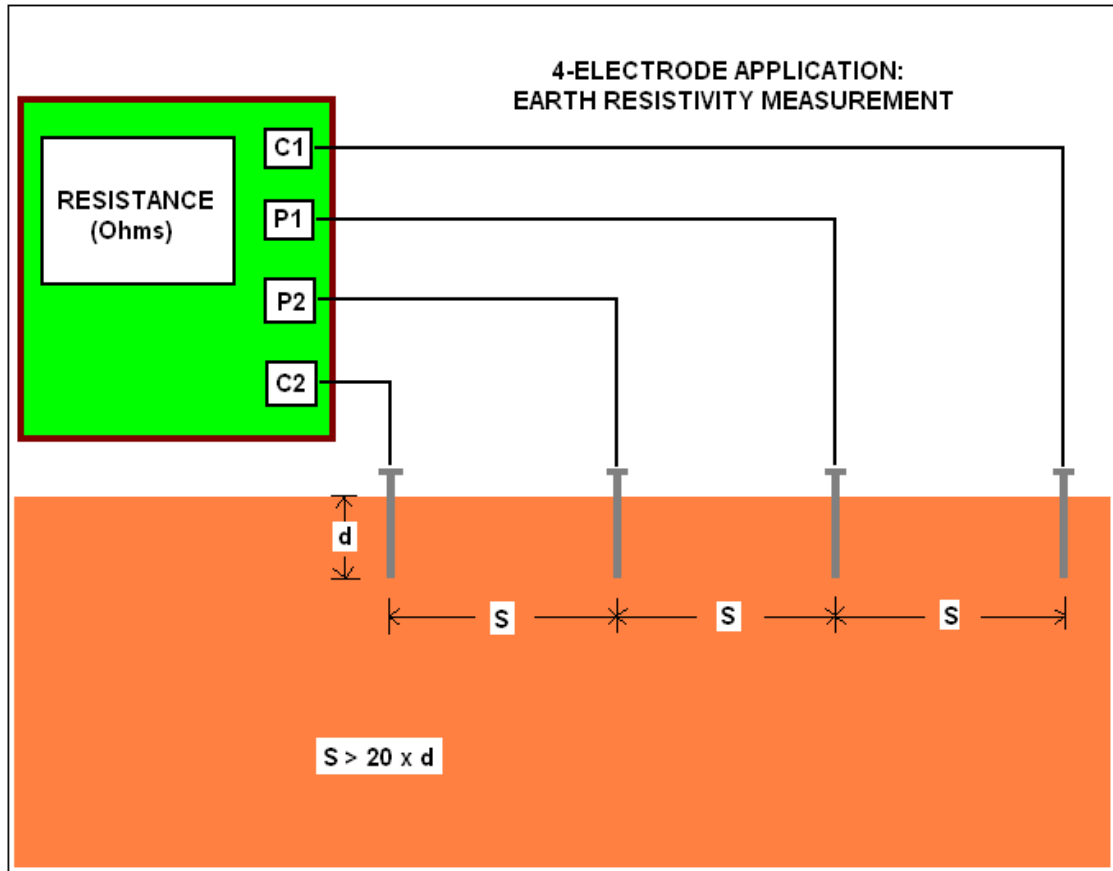

Figure 1
This application uses 4 electrodes (pins). The electrodes are driven down into the earth the same distance and are evenly spaced in a straight line. A schematic of this arrangement is illustrated in Figure 1 below.
The MILLER-400D can be used in conjunction with M. C. Miller's 4-lead (color-coded) test reel (catalog # 44700) and four heavy-duty (stainless steel) electrodes (soil pins) – catalog # 44720. The test leads are connected to the MILLER-400D as shown in Figure 1. With this arrangement, the MILLER-400D displays the earth's average resistance to a depth equal to the electrode spacing (S), based on the magnitude of the current flowing between terminals C1 and C2 and the voltage dropped between terminals P1 and P2. **Note:** For load resistances $>1\text{M}\Omega$, in addition to internal meter errors, errors associated with test lead proximity can also be significant (please see Appendix 3 for details).